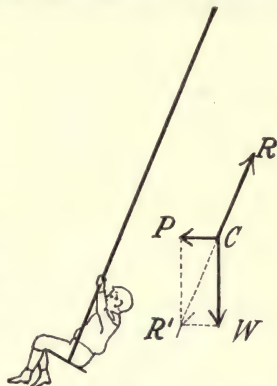

FIG. 116. — Three forces acting on child in swing.
Again, suppose we have a 100-pound child in a swing (Fig. 116). A man pushes the child to one side with a force of 20 pounds. What is the magnitude and direction of the pull exerted by the rope? In the force diagram (Fig. 116), CW represents the weight of the child (100 pounds), CP represents the push (20 pounds) of the man against the child, and CR represents the pull of the rope which we wish to determine. The resultant CR' of CP and CW is equal to $\sqrt{CP^2 + CW^2}$, or $\sqrt{(20)^2 + (100)^2}$, or about 102 pounds. Therefore the tension in the rope is also 102 pounds. Its direction can be found from the diagram.